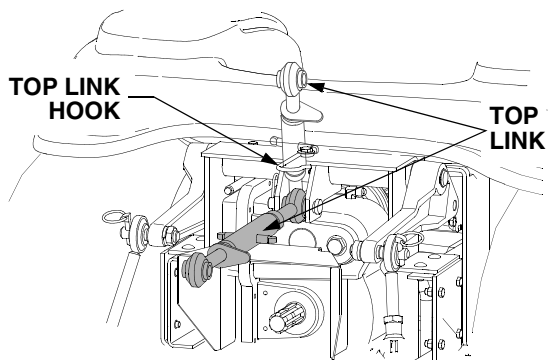

Figure 21
- Pivot the link hook from its storage position to the center and lower the top link into the hook of the rod. Refer to Figure 21.